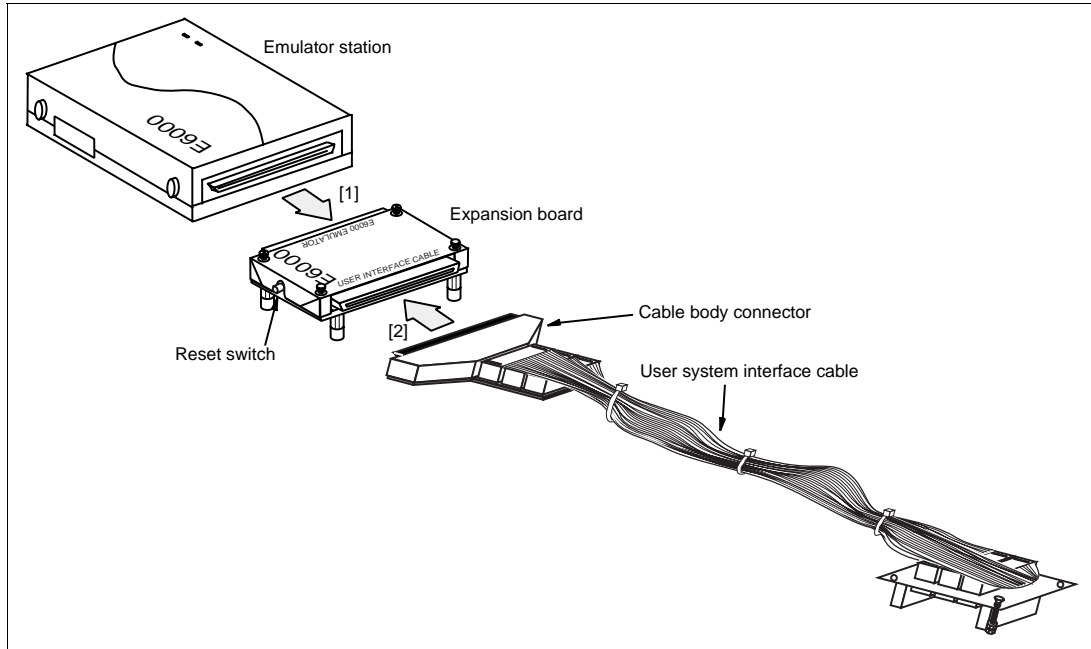

Figure 2 Connecting User System Interface Cable to Expansion Board
2. [1] After making sure the direction of the expansion board connector labeled E6000 EMULATOR is correct, firmly insert the expansion board connector into the emulator station connector ([1] in figure 2).